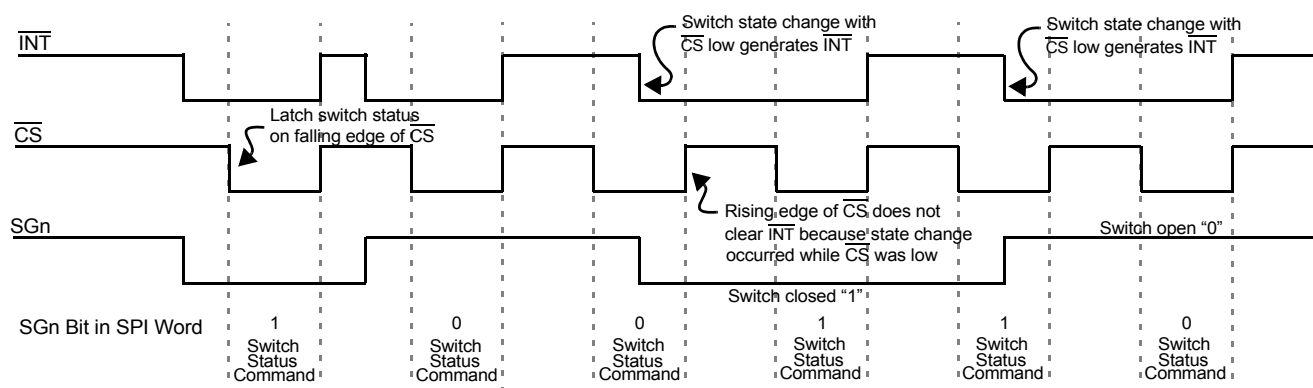

Figure 6. Normal Mode Interrupt Operation
1.  $\overline{INT}$  terminal is reset to logic [1], except when additional switch changes occur during  $\overline{CS}$  low (see Figure 6, page 10).
Figure 6, page 10, is a graphical description of the device operation in Normal mode. Switch states are latched into the input register on the falling edge of  $\overline{\text{CS}}$ . The  $\overline{\text{INT}}$  to the MCU is cleared on the rising edge of  $\overline{\text{CS}}$ . However,  $\overline{\text{INT}}$  will not clear on rising edge of  $\overline{\text{CS}}$  if a switch has closed during SPI communication ( $\overline{\text{CS}}$  low). This prevents switch states from being missed by the MCU.